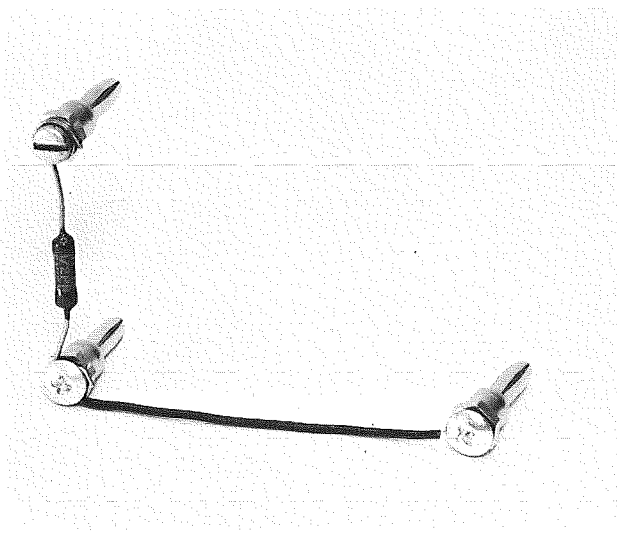

Fig. 5-1. Test resistor assembly.
4. Two precision resistors: A 100-ohm, 8 to 10 watt, and a 1000-ohm, $\frac{1}{2}$ watt, $\pm 0.5\%$ each, fitted with banana plugs as shown in Fig. 5-1.
5. A coax cable about 42 inches long to permit the test oscilloscope to be connected to the resistors of item 4.